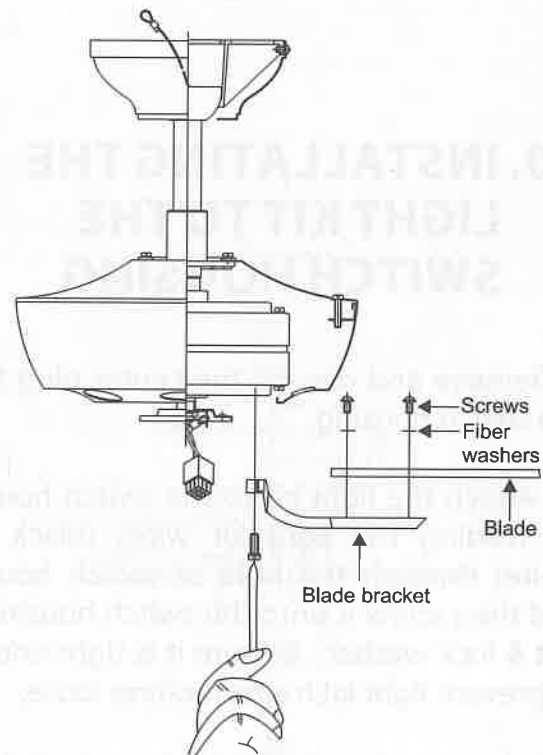

Figure 12
**Step 1.** Attach the blade to the blade bracket using the screws and fiber washers as shown in Figure 12. Start screw into bracket. Repeat for the two remaining screws.
**Step 3.** Fasten blade assembly to motor using the screws supplied. (Fig. 12)